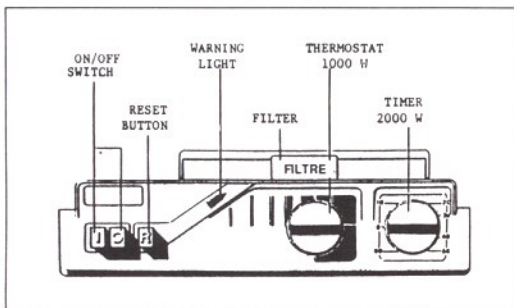

Figure 3
1. Push the ON 1 button at the top left of the unit (see Figure 3).
4. The OFF (0) button located on the left allows the unit to be turned OFF completely (see Figure 3).